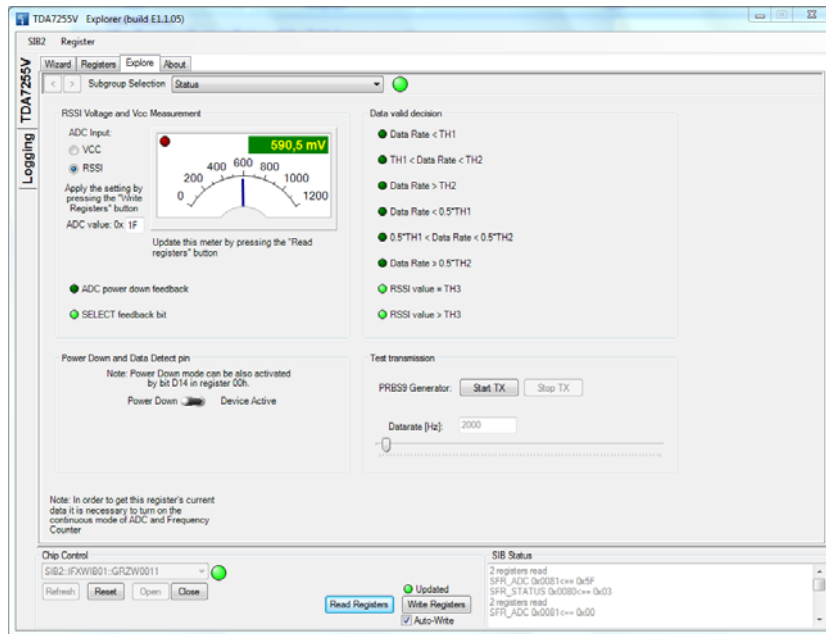

Figure 10 TDA7255V-Explorer, Explorer tab
- Furthermore you can read the **SFR Status register** and **SFR ADC register** at the **Explore**-tab. See the **RSSI Voltage and Vcc Measurement**- and **Data valid decision**-fields in the **Explore**-tab (see Figure 10).